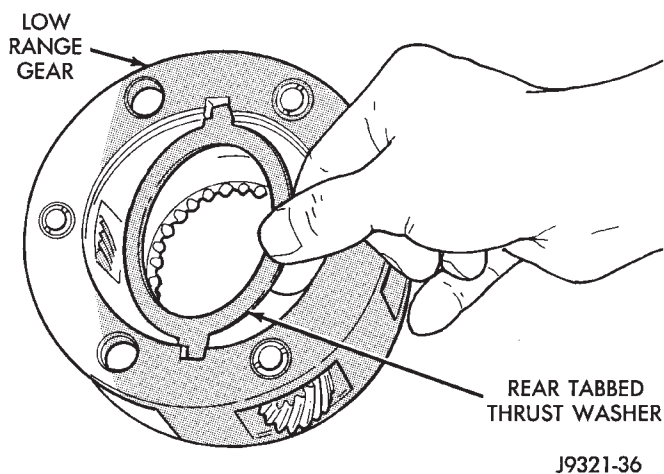

Fig. 36 Removing rear Tabbed Thrust Washer
(4) Remove rear tabbed thrust washer from low range gear (Fig. 36).